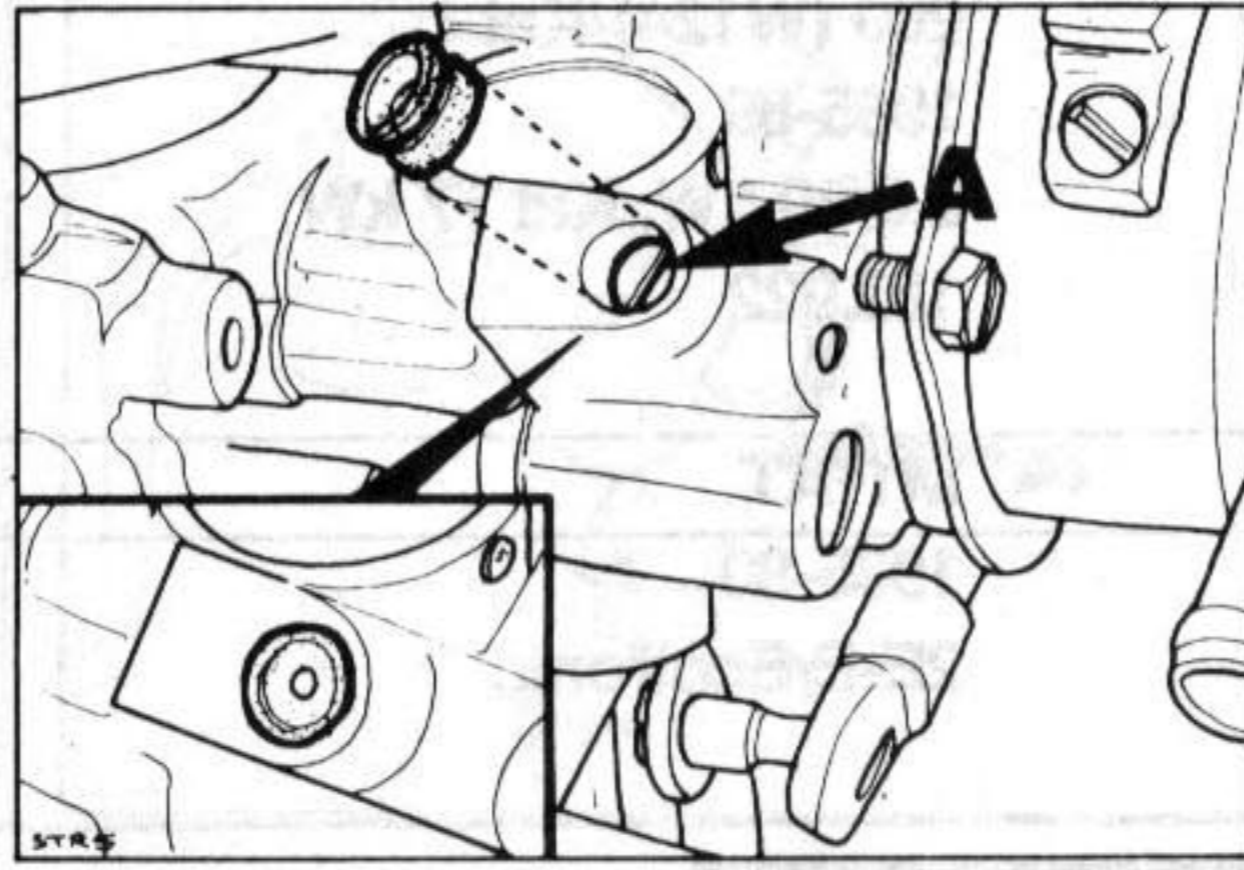

Fig. 6 Auxiliary air adjusting screw
- i) If outside specified limits turn screw (A, Fig. 6) to obtain correct setting.